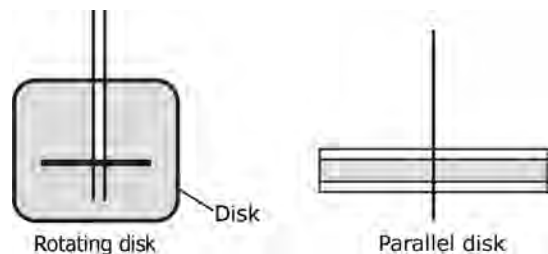

FIGURE 1.3 Rotating disk and parallel plate viscometers.
- Rotational viscometers (Figure 1.3) use the principle that the force required to turn an object in a fluid depends on the viscosity of the liquid. Absolute viscosity can be directly obtained from a rotational viscometer that measures the force needed to rotate a spindle in the fluid.